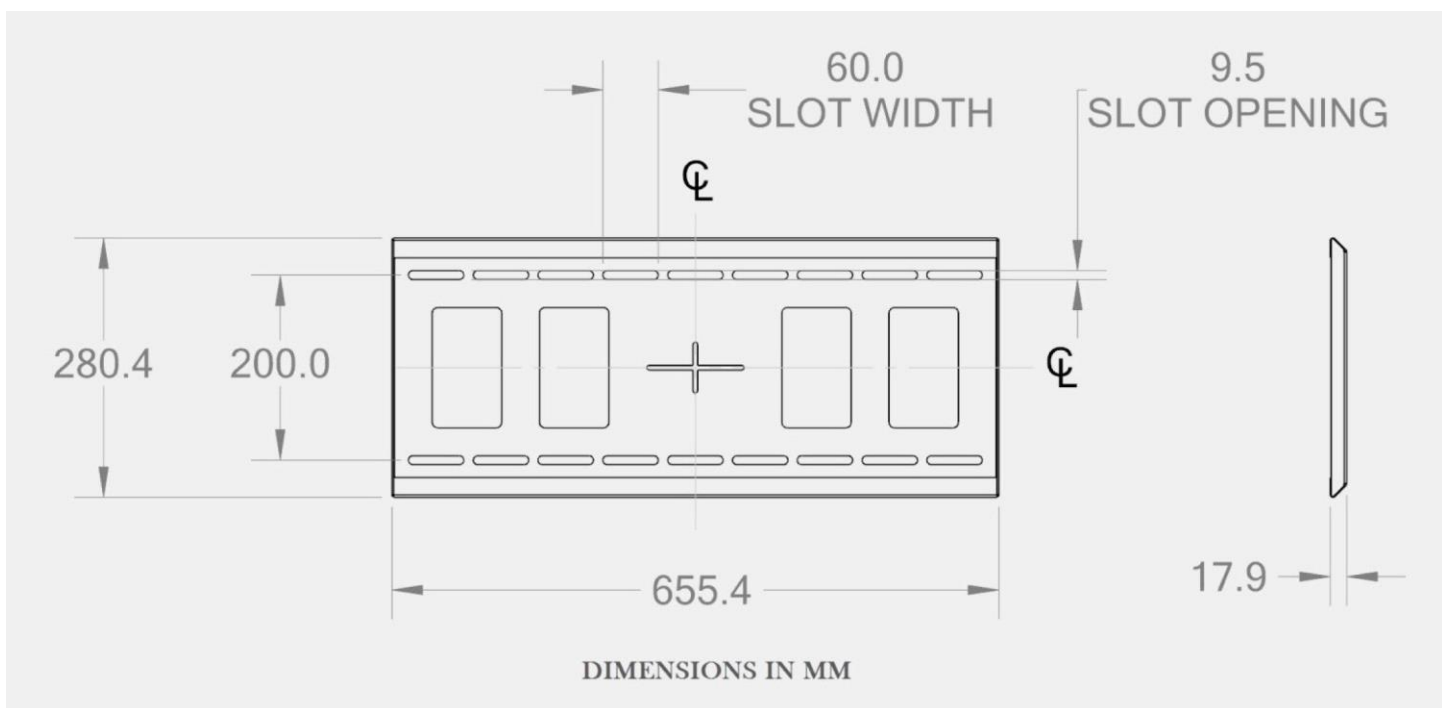

Figure 3. Wall bracket
- 201-0186: Wall bracket - see figure 3